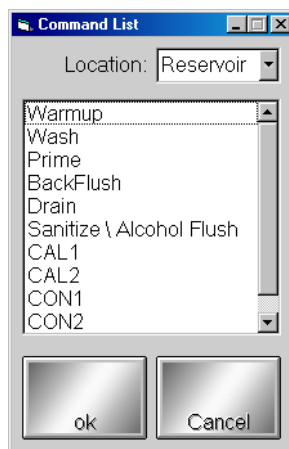

Figure 5-11 Command List Dialog Box
1. Click **Add Command** from the Favorites list. The **Command List** dialog box opens. See Figure 5-11.